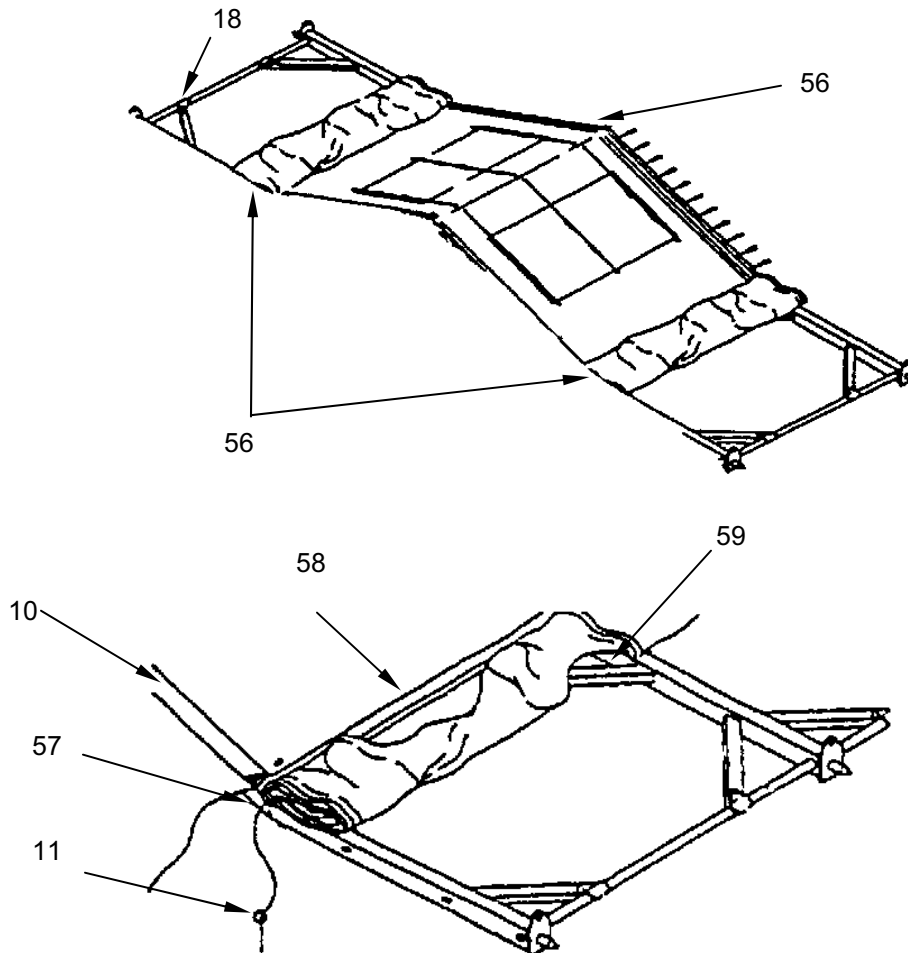

Figure 28. Raising the Frame to Partially-Erect Position.
1. Fold wall fabric (**Figure 28, Item 56**) towards ridge (**Figure 28, Item 18**) to expose eave gussets (**Figure 28, Item 57**). Place folded fabric on ridge fabric (**Figure 28, Item 56**).
2. Identify quick release pin (**Figure 28, Item 11**) and ensure it is hanging free.
3. Identify the locking hole in the side arch assembly (**Figure 28, Item 10**) and ensure it is free of debris.
4. Step in next to the eave gusset (Figure 28, Item 57).
5. Place one hand on the side arch assembly (Figure 28, Item 10) and one hand on the eave purlin (Figure 28, Item 58) outside the diagonal brace (Figure 28, Item 59).